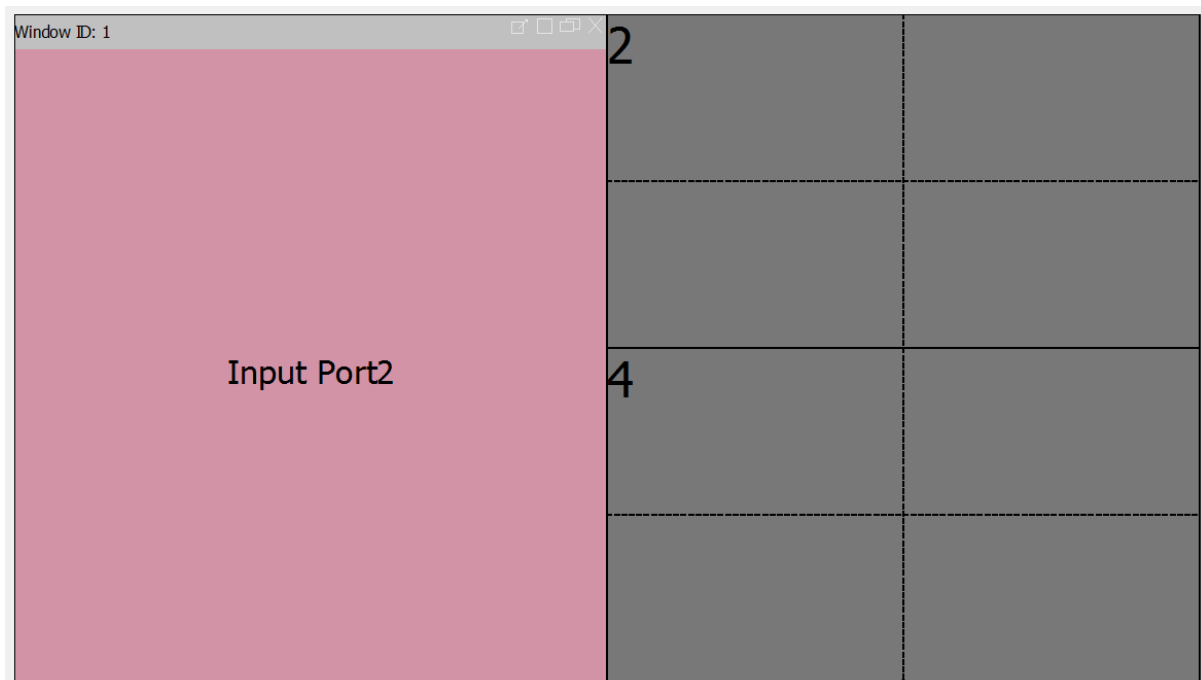

Figure 44: Image scaled to fill screens 1 & 3
- Here parts of input 2 are present on screens 1 & 3, if we now left click on the Zoom to the screen option in the list the resulting image will look as below in figure 44